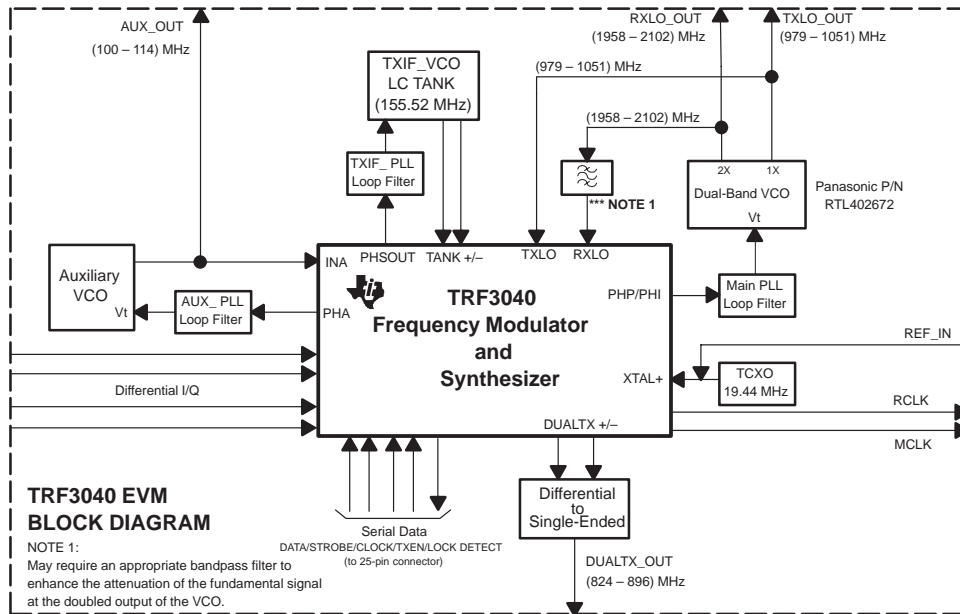
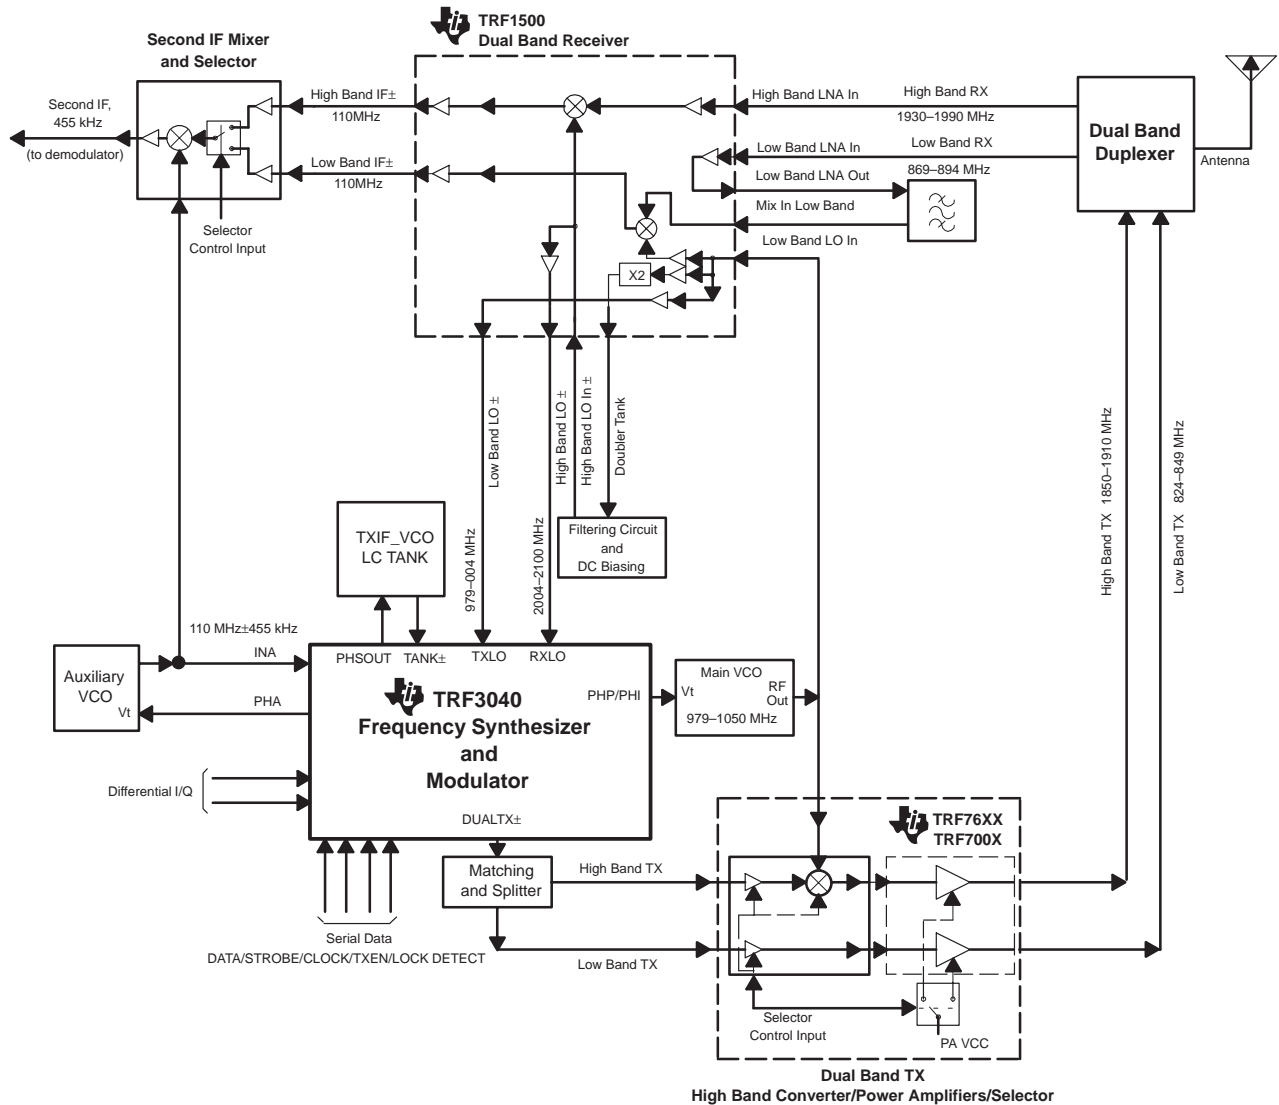

Figure 8. Single-Band System Using the TRF3040 Device
Figure 9. Dual-Band System Using the TRF3040 Device
The TRF3040 evaluation board is designed for a single-band/dual-mode system, as suggested in Figure 8; however, it is possible to use the TRF3040 board in a dual-band system with an external high-band converter in the transmitter path. Figure 9 outlines a dual-band system architecture block diagram using the TRF3040 modulator/synthesizer with the TRF1500 dual-band receiver and the TRF700X/TRF761X power amplifier (PA) families from Texas Instruments Incorporated.